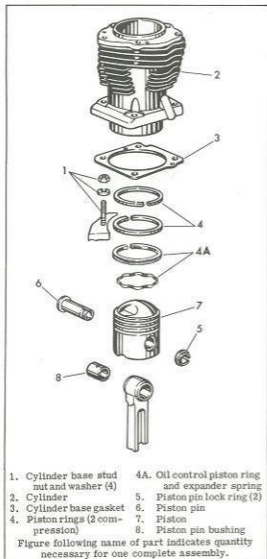

Figure 3C-1. Cylinder - Exploded View
DISASSEMBLING CYLINDER AND PISTON (Fig. 3C-1)
Spring piston rings (4) outward until they clear ring grooves in piston and lift off. Use a commercial ring expander if necessary. Pry right piston pin lock ring (5) off piston pin using the Piston Lock Ring Tool, Part No. 96780-32A and screwdriver as shown in Fig. 3C-2. Right end of piston pin has slots for this purpose. Tap out piston pin (6) and lift off piston (7).